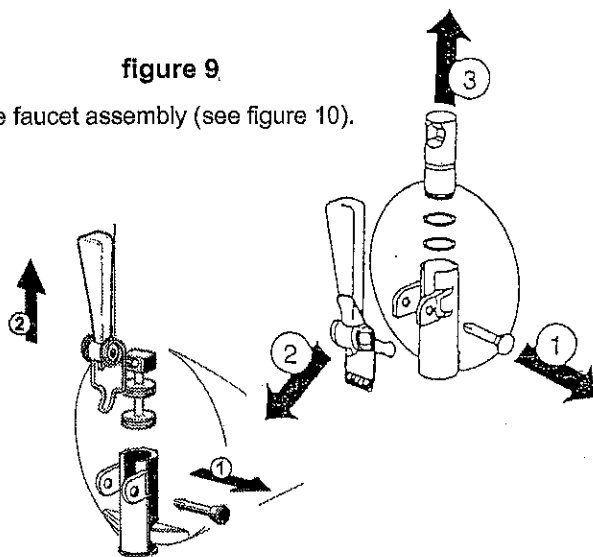

figure 10
5 - Dismantle the faucet assembly (see figure 10).
- 3 - Assemble the faucet by reversing the disassembly steps (see figure 10)